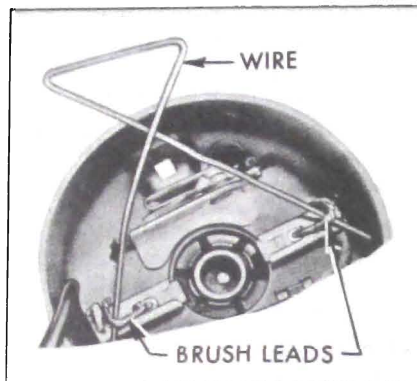

Figure 10-120—Holding Brush Leads
5. To separate armature from case while still retaining the brush springs and brushes in place, bend a wire as shown in Figure 10-120 and insert behind the brush leads as shown.